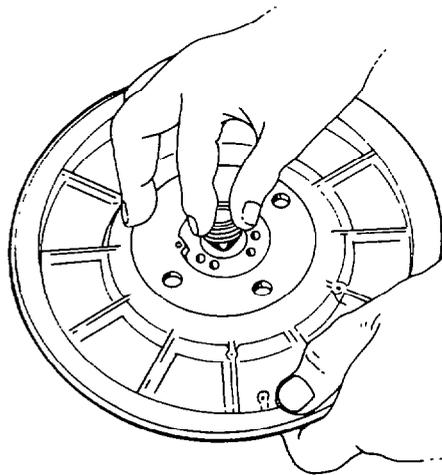

Fig. 140 — Remove Thrust Spacer
- h. Remove the thrust spacer (item 10) from the bore of the backplate (see fig. 140). Remove the piston rings (item 9).